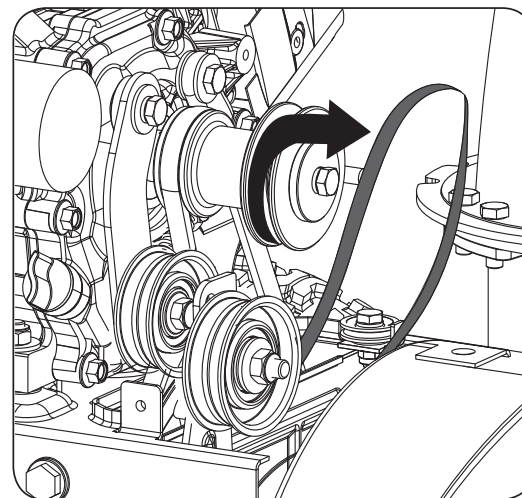

Figure 17b
3. Roll the auger belt off the engine pulley. (See **Figure 17b**)
- a. Roll the auger belt off the engine pulley. (See **Figure 17b**)